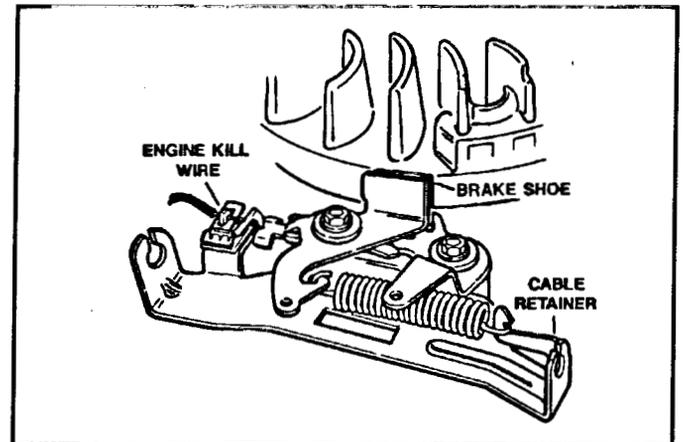

Figure 99
1. Mount the brake assembly to the block with two 5/16" hex, washer head screws. Torque to 35 in lbs (4 Nm). See Figure 99.